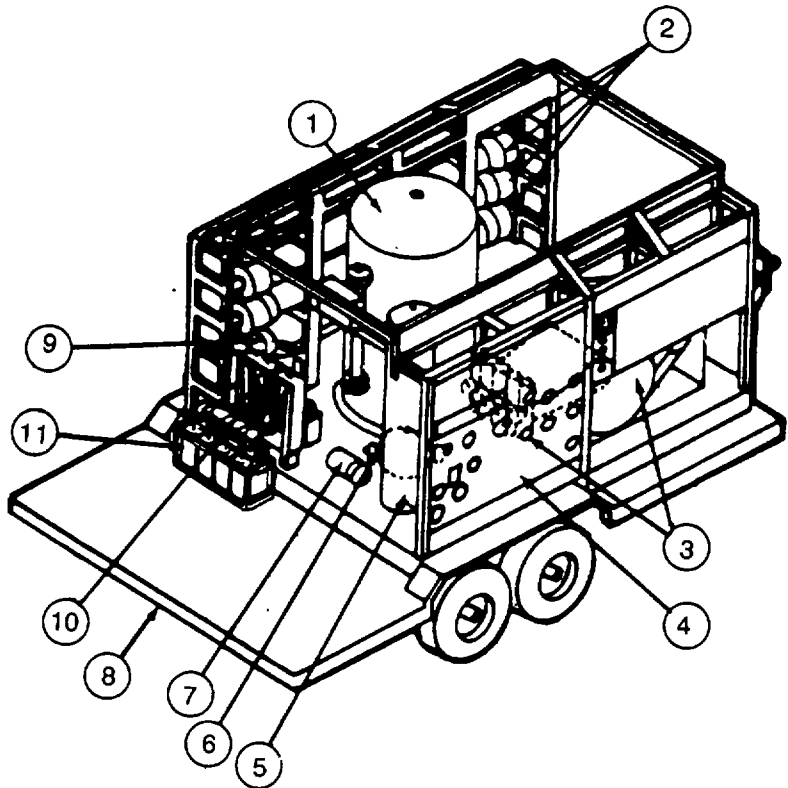

Figure 1-13. ROWPU - Generator Removed (Rear View)
e. Figure 1-13 identifies the following parts:
**MULTIMEDIA FILTER (1).** Provides first stages of removing unsafe matter from raw water.
**R.O. PRESSURE VESSELS (2).** Loaded with rolled, thin films (called elements). Here, osmosis is reversed by applying pressure to reduce dissolved solids from raw filtered water.
**R.O. PUMP (3).** Applies very high pressure to raw filtered water flowing through R.O. pressure vessels.
**CONTROL PANEL (4).** Panel on the control box assembly with meters, control valves, hose connections, and electrical switches.
**CARTRIDGE FILTER (5).** Provides more cleaning to water coming out of the multimedia filter.
**PULSE DAMPENER (6).** Located behind the cartridge filter, reduces shock (water pulses) caused by R.O. pump.
**BOOSTER PUMP (7).** Forces water from multimedia filter through the cartridge filter.
**GENERATOR PLATFORM (Army) (8).** A 30-kW generator set is mounted on this platform.
**PRIME/RUN VALVES (9).** Allows pumps to be primed in the PRIME position and dispenses chemicals in the RUN position.
**CHEMICAL FEED PUMP (10).** Pumps chemicals into water being processed.